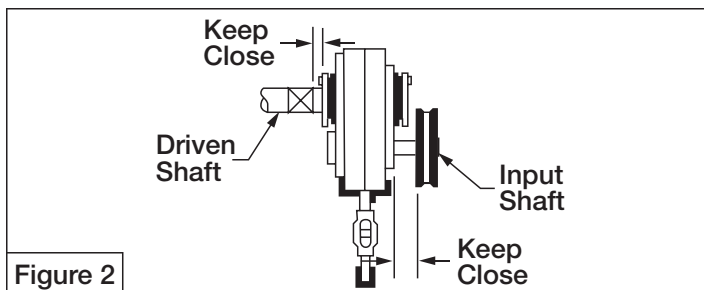

Figure 2
3. Install sheave on input shaft as close to reducer as practical. (See Fig. 2)